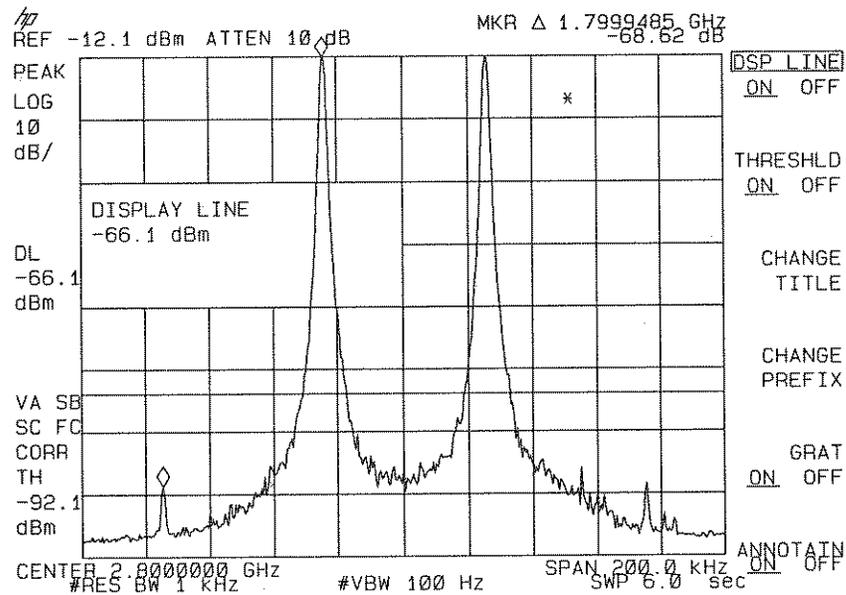

Figure 4-22. Third Order Intermodulation Distortion
40. Press **PEAK SEARCH**, **MARKER DELTA**. Press the following analyzer keys: **DISPLAY**, **DSP LINE ON OFF** (ON). Set the display line to a value 54 dB below the current reference level setting.
41. The third order intermodulation distortion products should appear 50 kHz below the lower frequency signal and 50 kHz above the higher frequency signal. Their amplitude should be less than the display line. See Figure 4-22.
54. The third order intermodulation distortion products should appear 50 kHz below the lower frequency signal and 50 kHz above the higher frequency signal. Their amplitude should be less than the display line. See Figure 4-22.